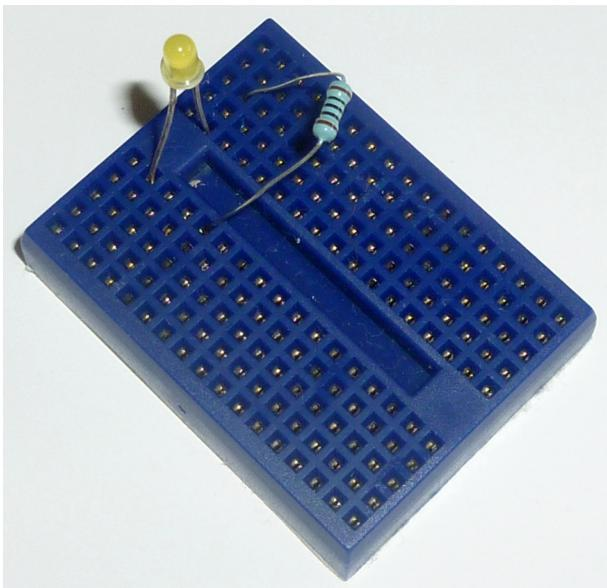

Figure 3-2. Resistor (RES1) and LED inserted into the motherboard
- When wiring, rotate the mini breadboard so that it is taller than it is wider (as seen in Figure 3-2); with this orientation, each row is broken into two segments of five holes.
I've also inserted RES1 so that one of its leads shares a row with the cathode (-) lead of the LED. Notice in Figure 3-2 that RES1's other lead is inserted into an empty row on the mini breadboard just below the LED's anode lead.